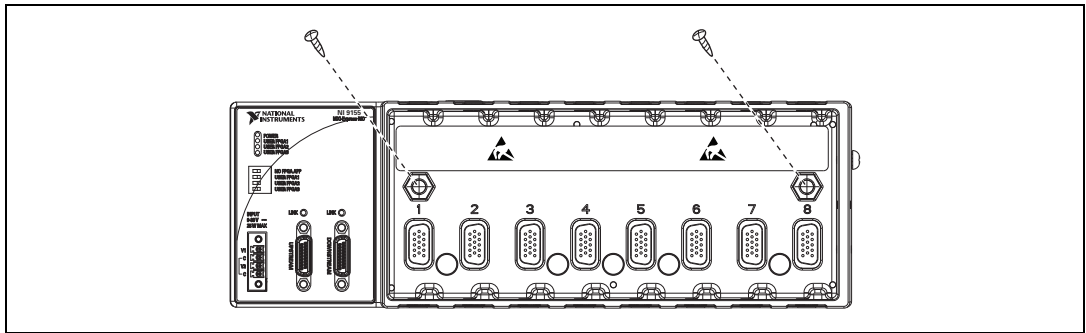

Figure 6. Mounting the NI 9155 Directly on a Flat Surface
3. Fasten the chassis to the surface using two M4 or number 8 screws, as shown in Figure 6. National Instruments does not provide these screws with the chassis.